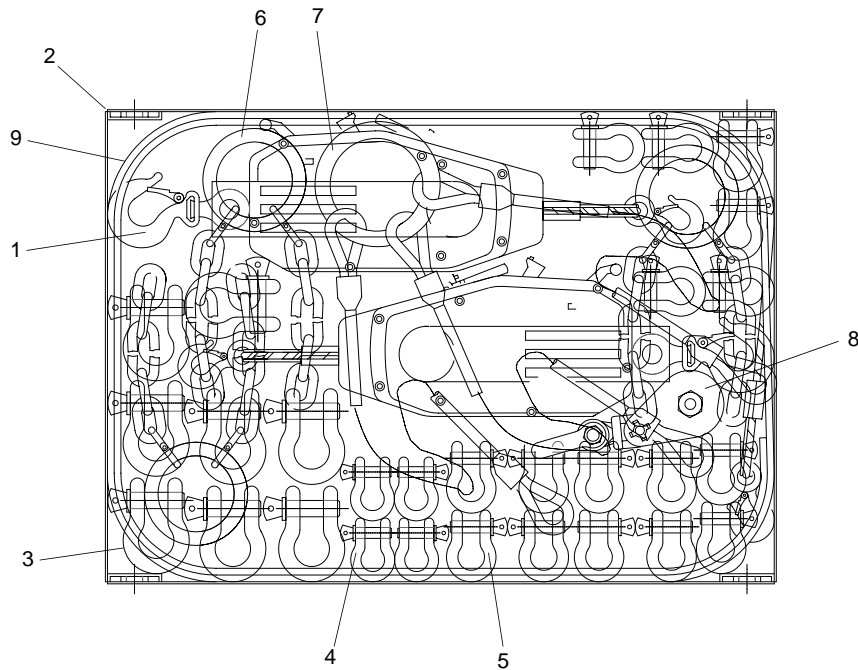

Figure 17. Middle Drawer Storage Arrangement
- a. Stow two griphoists (figure 17, item 1) in middle drawer (figure 17, item 2).
- b. Stow six 1 3/8 in. shackles (figure 17, item 3) in middle drawer (figure 17, item 2).
- c. Stow eight 7/8 in. shackles (figure 17, item 4) in middle drawer (figure 17, item 2).
- d. Stow 28 1 in. shackles (figure 17, item 5) in middle drawer (figure 17, item 2).
- e. Stow eight ring and chain assemblies (figure 17, item 6) in middle drawer (figure 17, item 2).
- f. Stow four 10 ft multi-leg cable assemblies and four 5 ft multi-leg cable assemblies (figure 17, item 7) in middle drawer (figure 17, item 2).
- g. Stow one snatch block (figure 17, item 8) in middle drawer (figure 17, item 2).
- h. Stow two griphoist cable assemblies (figure 17, item 9) in middle drawer (figure 17, item 2).